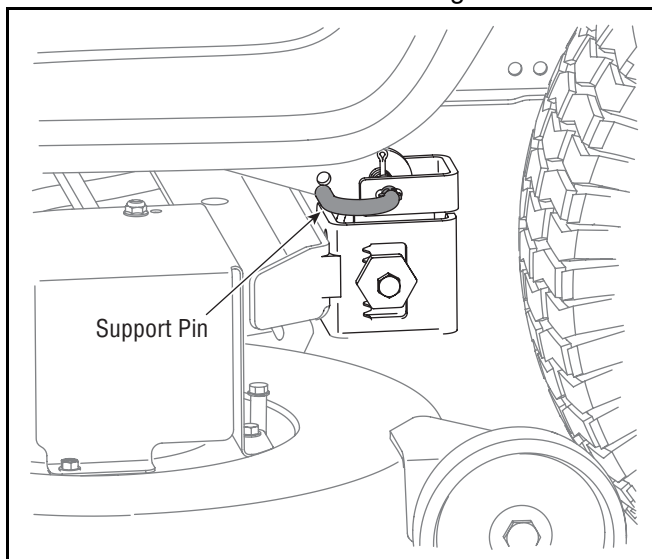

Figure 22
7. Pull the deck support pin outward to release the deck from the deck lift arm. See Figure 22.